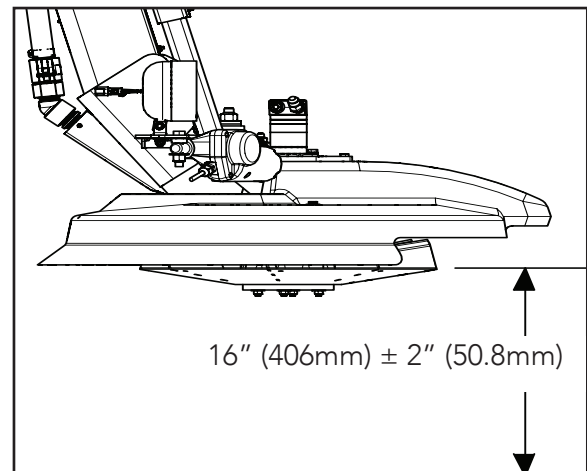

Figure 4
- Figure 4 - Measure distance from outer edge of spinner disc to ground. Distance between disc and road surface must be $16'' \pm 2''$ (356-457mm). Note difference between required and actual height of disc.